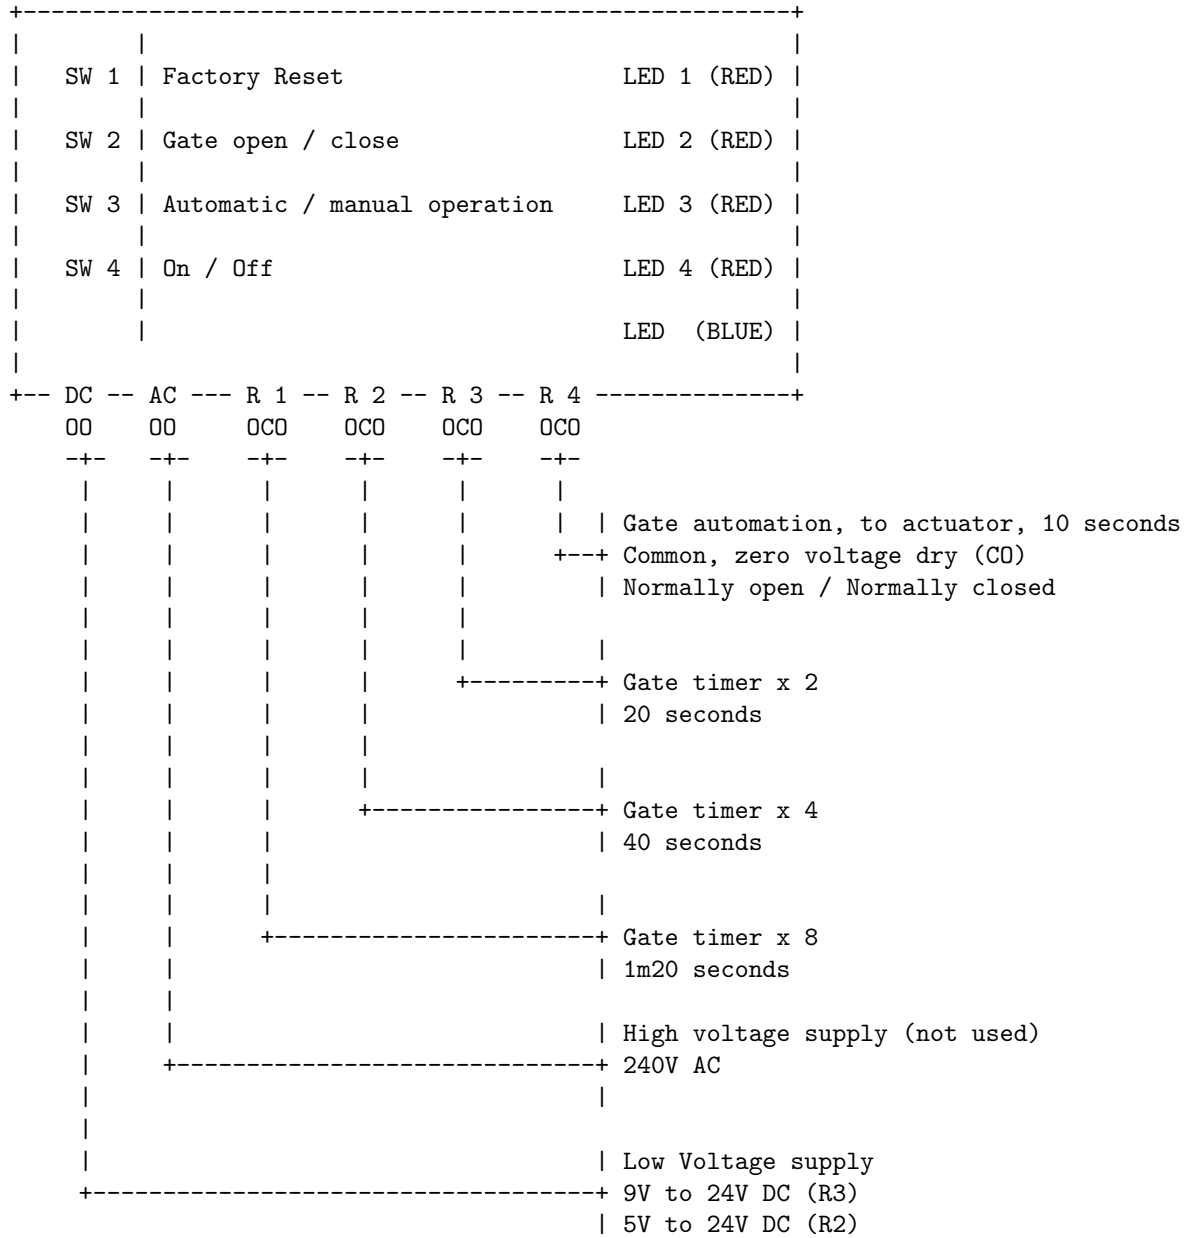
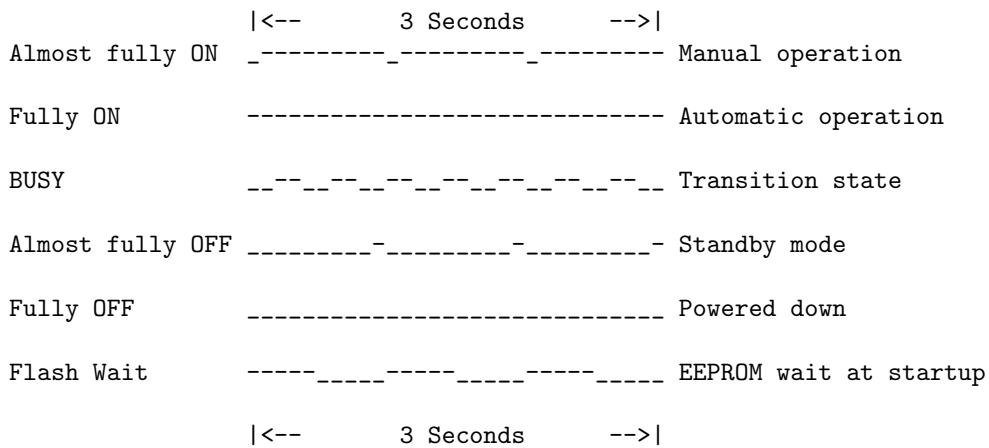

Figure 1.1: Wiring
Figure 1.2: Blue LED codes
- qkGate unit Install** Install and connect the equipment. The qkGate unit should have power (9V0 - 23V0 DC) and a connection to the gate automation trip circuit. It may take up to 10 seconds before you see any activity on the LEDs. You should expect to see a BLUE LED on the qkGate unit when it is powered, detail on the LED flash patterns are available in figure 1.2 A wiring schematic is available in figure 1.1.
1. Place the qkGate unit in STANDBY mode, press button 4 on the faceplate. The blue LED will go almost fully off, refer to figure 1.2 for the LED codes.